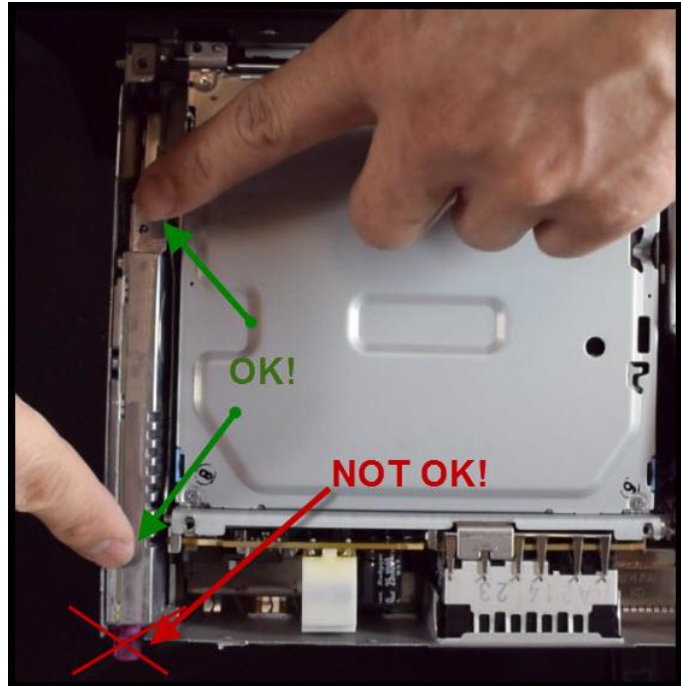

Figure 15. Do not press down using the purple FAKRA connector.
13. Place the new UMTS telephone module into the socket, making sure it is level before snapping it into place. Use both ends of the telephone module when pressing it into place. Do not press down using the purple FAKRA connector (Figure 15).
18. Place the repair label on the top of the main unit cover. Do not cover any part number label with the repair label and do not cover the yellow laser warning (Figure 15). Fill out all fields on the repair label.
Figure 15. The white area indicates the suggested location for the repair label on the top cover of the main unit. Do not cover any existing part number labels or the laser warning.